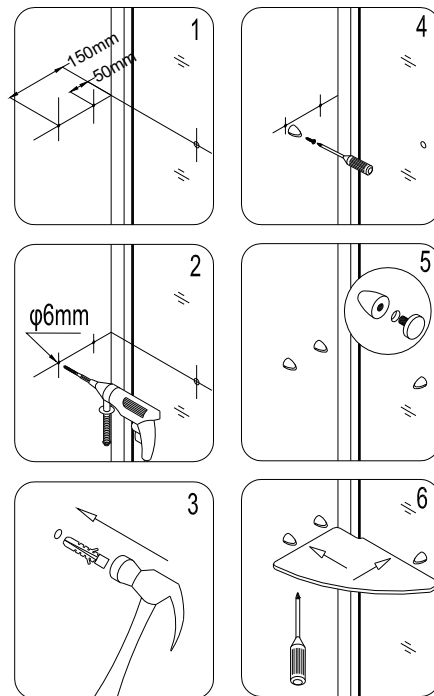

Fig 16
16. Refer to Fig 16 to mark the drill holes for the **Glass bracket (26)**. Make sure the marks are clear and visible, drill holes on the marks and insert **Wall anchor (28)**. Use self tapping **Flat head screws ST4.2×25 (29)** to attach the **Glass brackets (26)** to the wall. Install **Glass brackets (with nut) (27)** onto the **Stationary glass (25)**. Install the two **Glass shelves (35)** to the stationary glass. See Fig 16 for details.